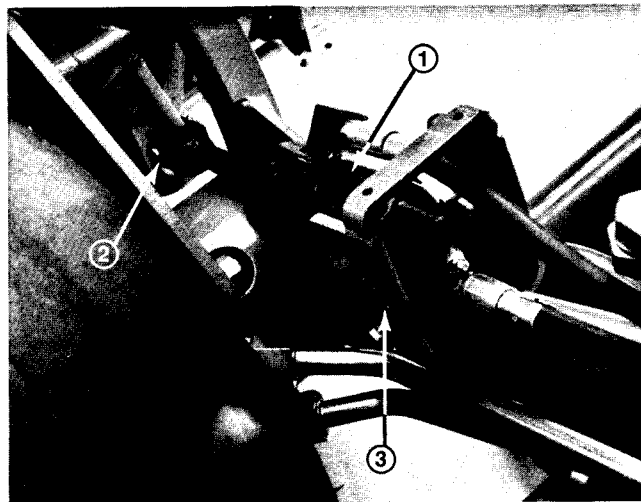

Figure 33
3. Remove cotter pin and clevis pin from cylinder rod (Fig. 33).